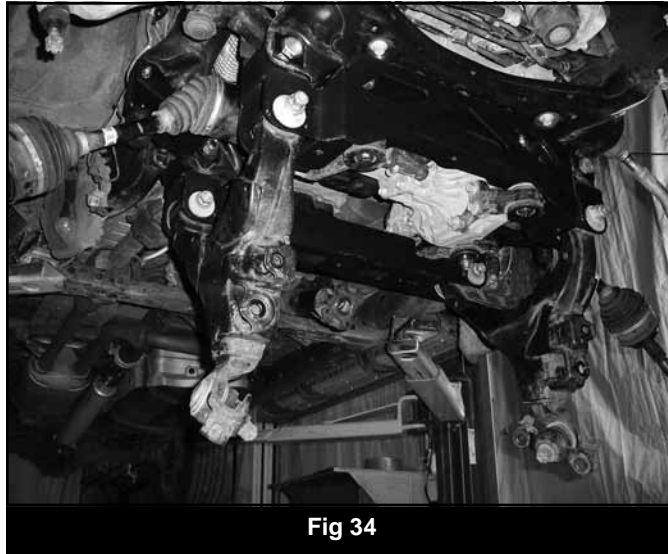

Fig 34
44. Locate and install the factory lower control arms into the new front and rear crossmembers (Fig 34). Loosely fasten the control arms with the factory cam bolts. The front cam bolts run from front to rear and the rear cam bolts run from rear to front. Thread the cam bolts just enough to seat the cams between the cam stops on the crossmembers but do not tighten.